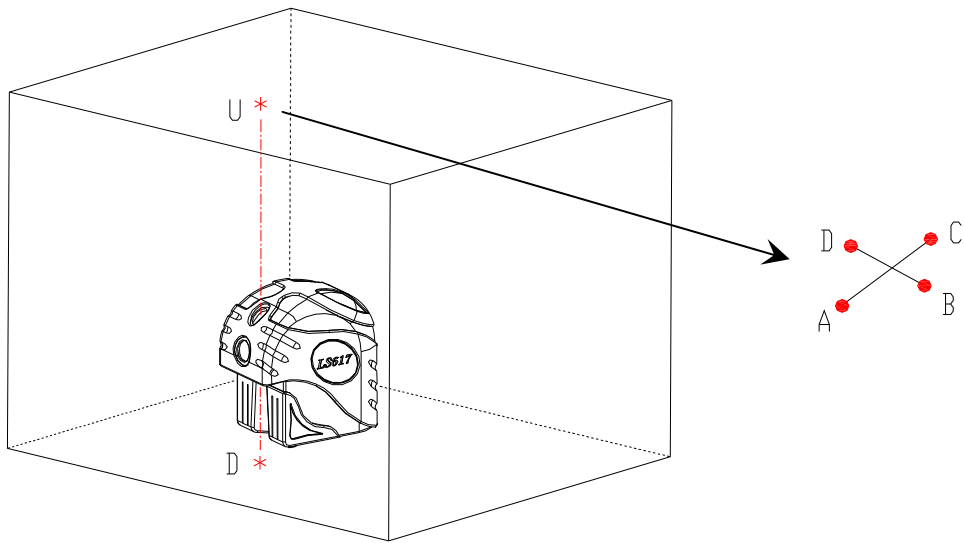

Figure 7
- As shown in the figure 7, put the unit on the ground according to the direction shown in figure 8-1, and mark a point on the ground.
- As shown in figure 7, the maximum distance among A, B C and D should not be over 2mm.